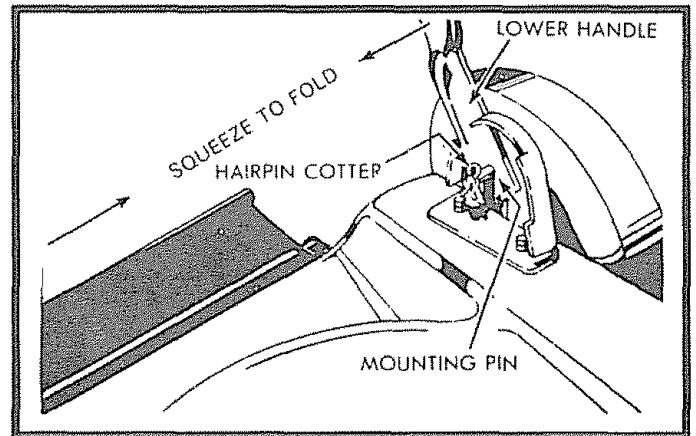

FIG. 13
- To fold, squeeze the bottom ends of the lower handle toward each other until the lower handle clears the handle bracket, then move handle forward (See Fig. 13).